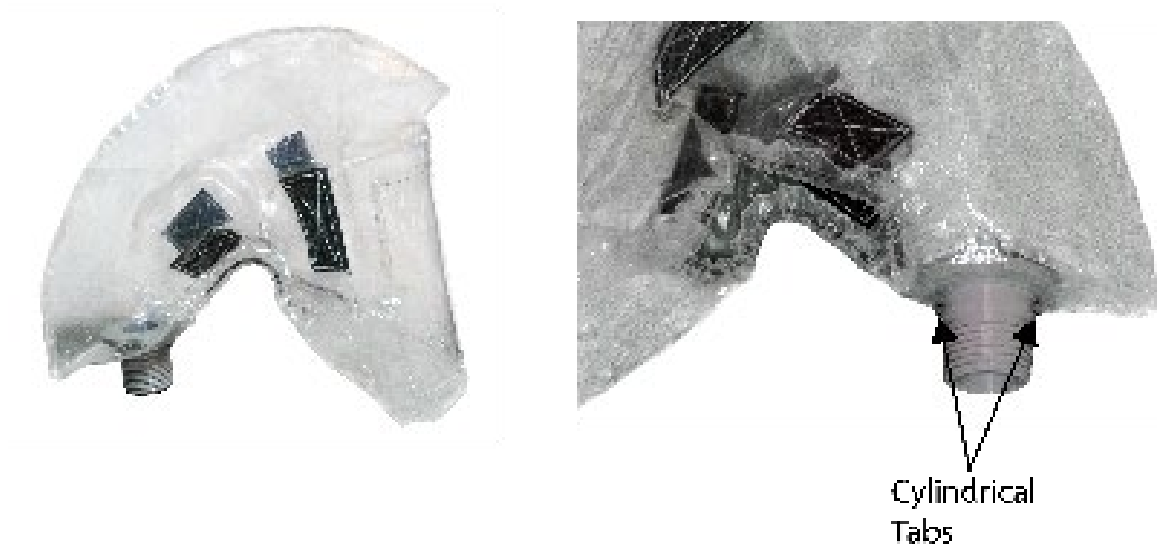

Figure 7: Hood Coupler and hood connection
6. Pass the hood coupler through the circular hole at back of the hood in such a way that the threaded part faces out of the hood. Make sure the two small cylindrical tabs pass through the hole. See **Figure 7** below.